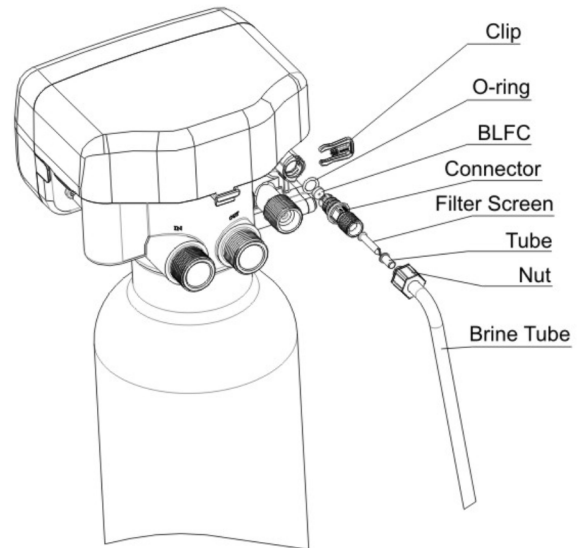

Figure 9-3
1. As Figure 9-3 shows; slide brine nut onto the 3/8" brine tubing.